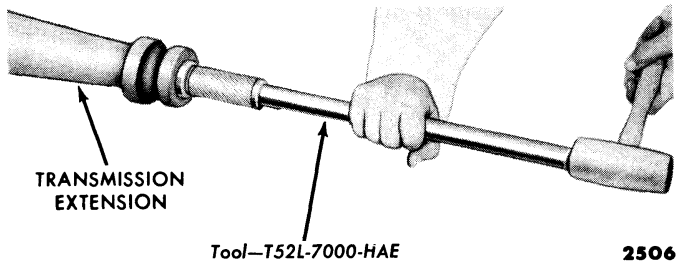
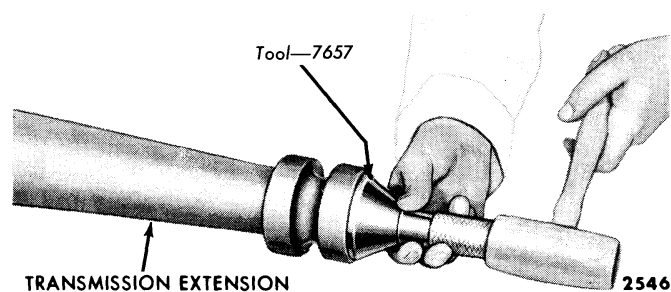

Fig. 16—Transmission Extension Rear Bushing Installation
Fig. 17—Transmission Extension Oil Seal Installation
(4) **OUTPUT SHAFT.** Install the transmission extension rear bushing as shown in fig. 16. Install the oil seal in the rear of the transmission extension (fig. 17).